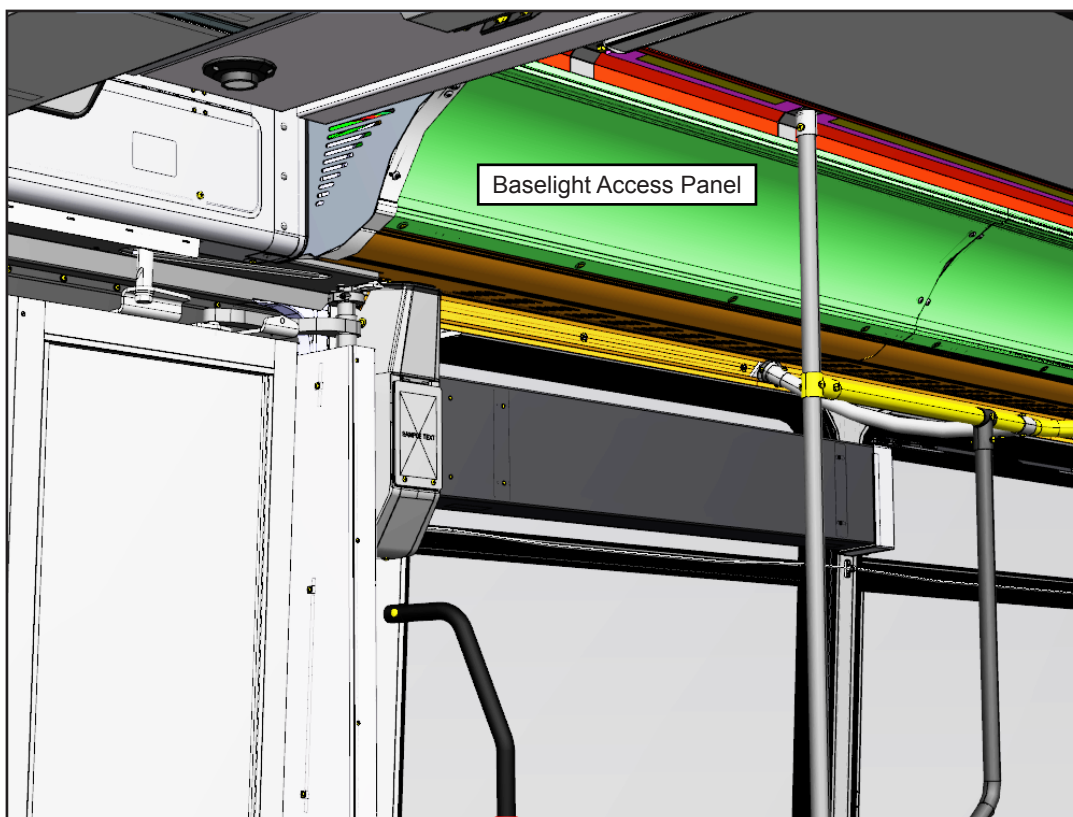

Figure 3 - Typical View of Baselight Access Panel
- 1.6. Remove all the baselight access panels (all sides) and retain the hardware if removed (see Figure 3).